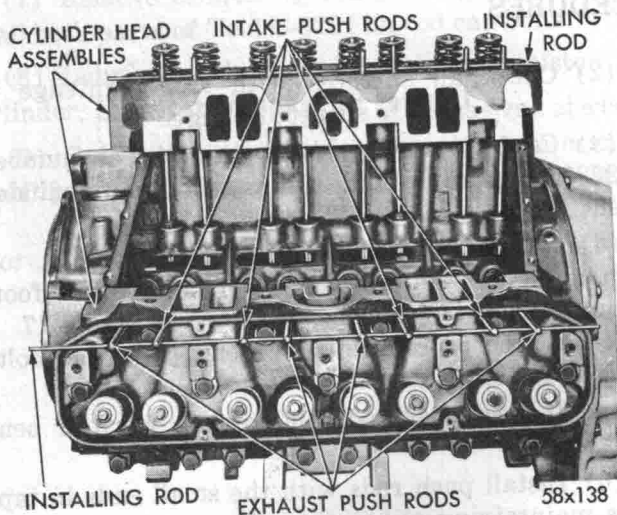

Fig. 18—Push Rods Installed
- (5) Inspect push rods and replace worn or bent rods.
- (6) Install push rods with the small ends in tappets maintaining alignment using rod, as shown in Figure 18.
- (7) Install the rocker arm and shaft assembly starting each push rod into its respective rocker arm socket.
- (8) Place the new cylinder head cover gaskets in position and install cylinder head covers. Tighten the nuts to 40 inch-pounds torque.
- (9) Install exhaust manifolds and tighten the nuts to 30 foot-pounds torque.
- (10) Adjust spark plugs to .035 inch gap and install the plugs, and tighten to 30 foot-pounds torque with Tool C-3054.
- (11) Install the tappet chamber cover and tighten end bolts to 9 foot-pounds torque.
- (12) Install intake manifold, carburetor and ignition coil as an assembly and tighten manifold bolts to 50 foot-pounds torque.
- (13) Install the distributor cap. Connect the coil wire, heat indicator sending unit wire, throttle linkage, spark plug cables and insulators.
- (14) Install alternator and drive belts. Tighten